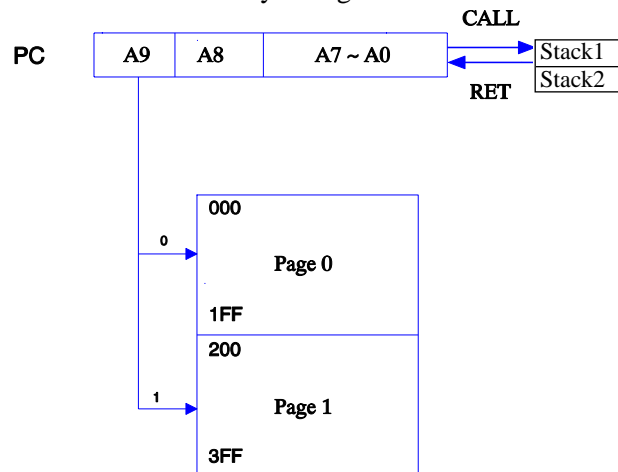

Fig. 3 Program counter organization
- R2 and hardware stack are 10-bit wide. The structure is depicted in Fig.3.